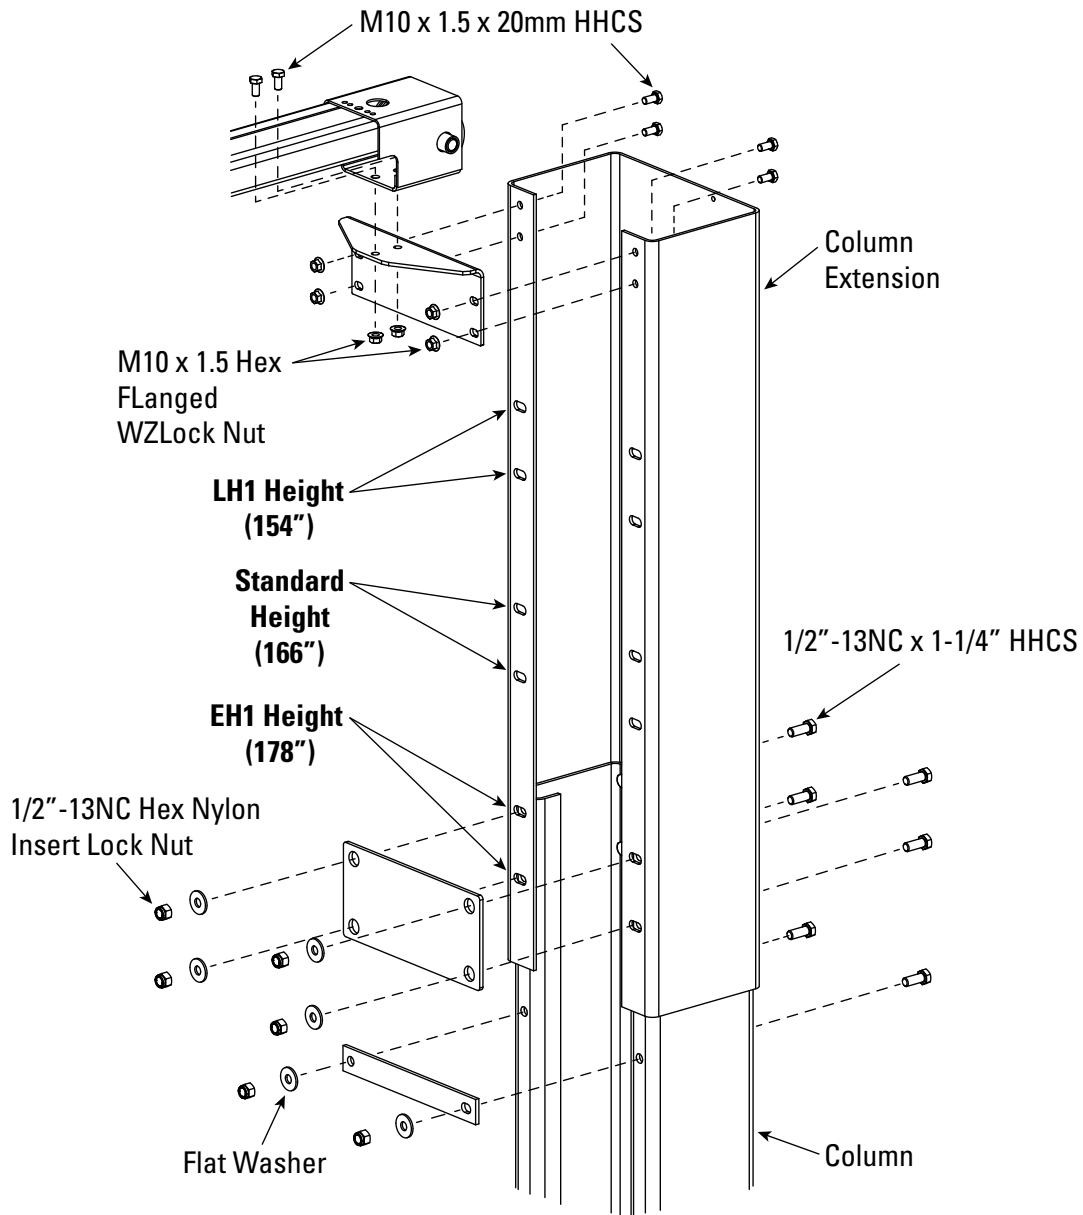
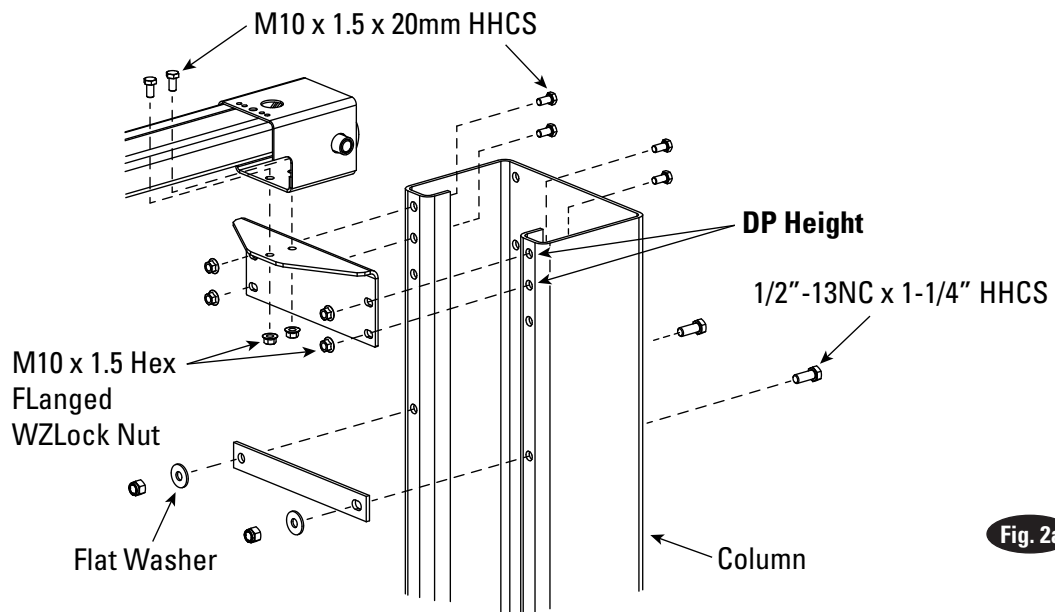
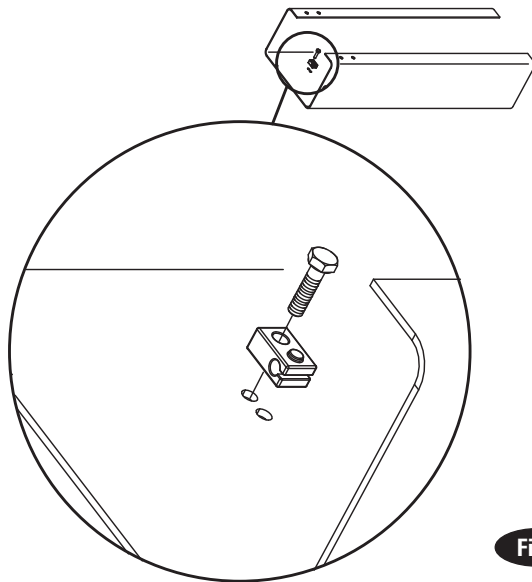
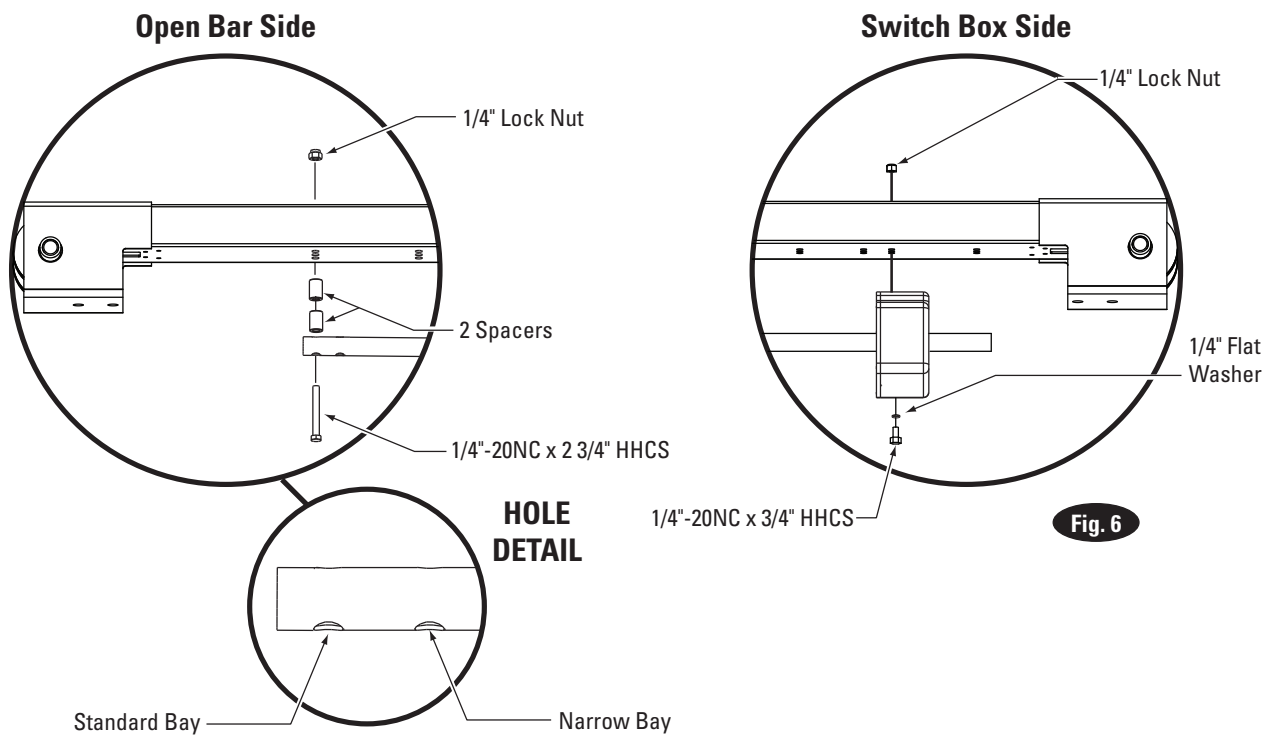

Fig. 2
Fig. 2a
Fig. 3
Fig. 6
Lift Height: See Fig. 2 for Standard, EH1, and LH1 height settings. See Fig. 2a for DP height setting. Add 1" min. to overall height to lowest obstruction.
2. Latch Cable Guides: Install the latch cable conduit guide brackets to column extensions with (1) 1/4"-20NC x 1" HHCS and 1/4"-20NC Flanged Locknuts, Fig. 3. HHCS should go through hole nearest the edge as shown, Fig. 3.
Overhead Mounting Bracket: Install Mounting Brackets to column extensions as shown, Fig. 2 and Fig. 2a.
3. Column Extensions: While column is on the ground, install column extensions using (4) 1/2"-13NC x 1-1/4" lg. HHCS and Hex Nylon Locknut, Fig. 2 and Fig. 3. Use (2) M10 x 1.5 x 20mm HHCS and Flanged Locknut to attach the tie bar and the column extension together at the column's uppermost holes, Fig. 2 and Fig. 2a. The tie bar is positioned on the outside of the column extension. Adjust the column extensions plumb.
IMPORTANT: All star washers are to be mounted on the right side column to ensure grounding of overhead limit switch. Star washers are not needed when mounting to left side column. Notice the column extension mounting, Fig. 2 and overhead limit switch mounting as well in Fig. 6.
6. Overhead Assembly: Adjust overhead to 114" between centerline of sheave pins, Fig. 6. Install (4) 3/8"-16NC x 2-3/4" Flanged HHCS & Flanged Locknuts, do not tighten. Install overhead stiffener angle inside center of overhead using (4) 3/8"-16NC x 1" Flanged HHCS and Flanged Locknuts, see Fig. 6. Slide switch box over switch bar ensuring lockout holes face the power unit column. Use (2) 1/4"-20NC x 2-3/4" lg. HHCS, (2) flat washers, (2) 3/4" spacers, and (2) 1/4" star washers and nuts to mount switch box to overhead, Fig. 7.
7. For single phase and three phase lifts with push button control box: Insert (2) 1/4"-20NC x 2-3/4" HHCS through pivot hole in end of switch bar. Insert opposite end of bar through slot in switch mounting bracket. Then add spacers between the limit switch box and the overhead, Fig. 6, using (2) spacers and 1/4"-20NC Locknut. Tighten Hex bolt leaving 1/16" gap between the spacer and the overhead assembly.
8. Overhead: Install overhead assembly to Mounting Bracket with (2) 3/8"-16NC x 3/4" Flanged HHCS, (2) 3/8-16NC flanged locknut, see Fig. 2 and Fig. 2a. Ensure limit switch box is mounted on power unit side, Fig. 7a and Fig. 7b. Tighten bolts at center of overhead assembly.